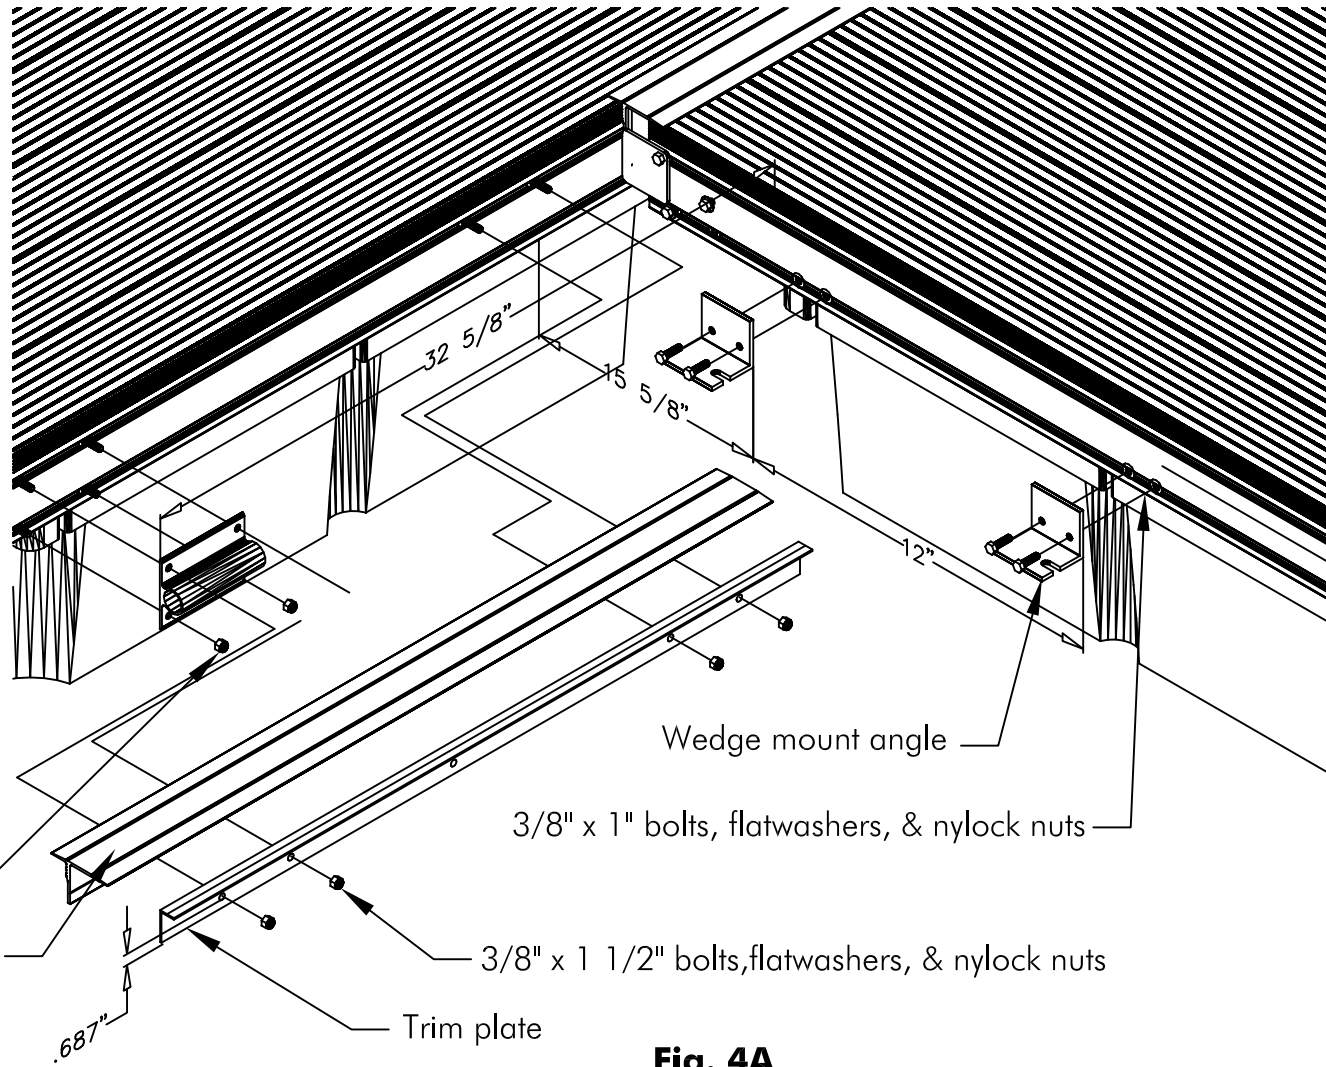
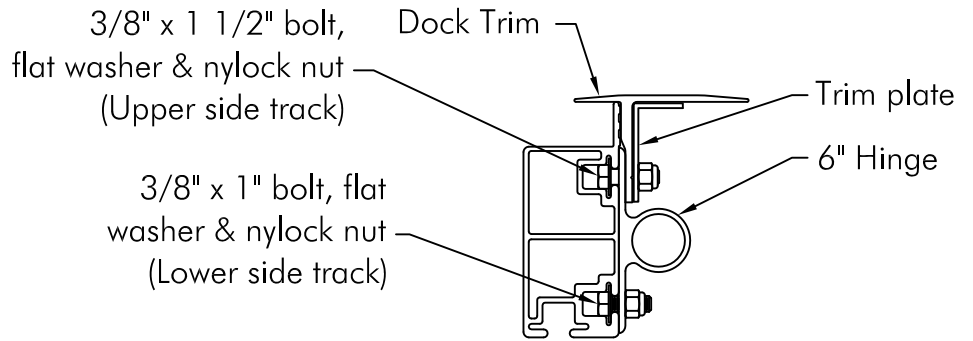

Fig. 4A
Fig. 4B
Determine the location of the hinge section of wedge. Be sure to attach hinge to the same dock side frame as the hinged dock section. Put a small pencil line 44 5/8" over from existing dock section. Insert (4) 3/8" x 1 1/2" bolts w/ (4) 3/8" flatwashers into the upper nut track. Slide (2) bolts with washers towards dock intersection. Insert (2) 3/8" x 1" bolts w/ (2) 3/8" flatwashers into lower nut track. Place the 6" hinge plate over the (2) 1 1/2" bolts in upper nut track farthest from the dock intersection & the (2) 1" bolts in the lower nut track. Now slide the 4" trim over the same (2) bolts & remaining (2) bolts installed earlier. Follow the same procedure with the 4" trim plate. See Fig. 4B. Align the farthest edge of the 6" hinge with the pencil line and install & tighten (6) 3/8" nylock nuts to 40 ft/lbs. See Fig. 4A.
Insert (2) 3/8" x 1" bolts through each wedge mount angle and put a 3/8" flatwasher, & nylock nut on each bolt just finger tight. Insert the flatwashers, & nylock nuts into the lower nut track on the adjacent dock section. Position the wedge mount angles per dimensions in Fig. 4A. Tighten to 40 ft./lbs.